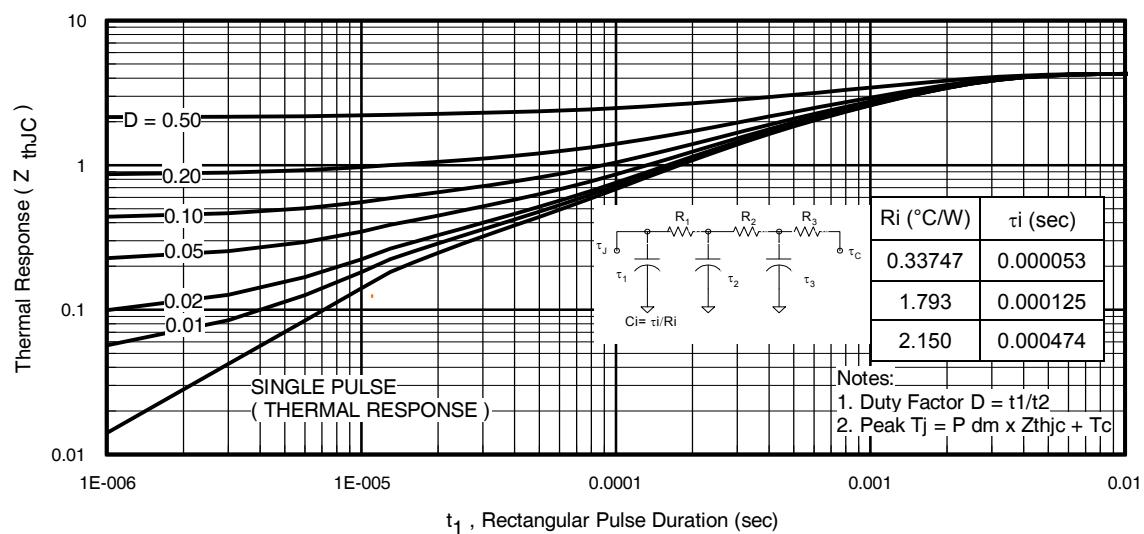
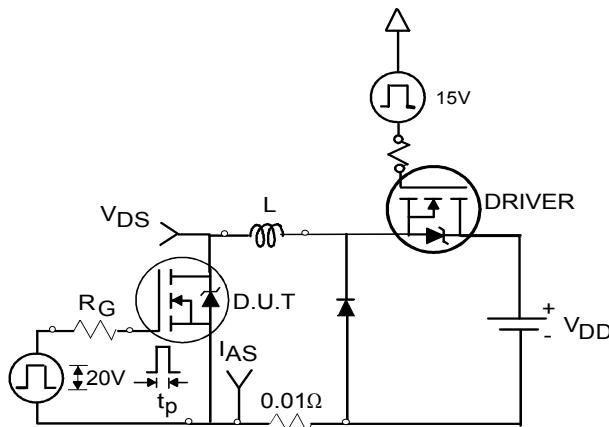

Fig 11. Maximum Effective Transient Thermal Impedance, Junction-to-Case
Fig 12a. Unclamped Inductive Test Circuit
- ① Repetitive rating; pulse width limited by max. junction temperature. (See fig. 11)
- ② Limited by $T_{J\max}$, starting $T_J = 25^\circ\text{C}$, $L = 1.29\text{mH}$, $R_G = 25\Omega$, $I_{AS} = 5.2\text{A}$, $V_{GS} = 10\text{V}$. Part not recommended for use above this value.
- ③ Pulse width $\leq 1.0\text{ms}$; duty cycle $\leq 2\%$.
- ④ $C_{oss\ eff.}$ is a fixed capacitance that gives the same charging time as C_{oss} while V_{DS} is rising from 0 to 80% V_{DSS}
- ⑤ Limited by $T_{J\max}$, see Fig.12a, 12b, 15, 16 for typical repetitive avalanche performance.
- ⑥ This value determined from sample failure population. 100% tested to this value in production.
- ⑦ When mounted on 1" square PCB (FR-4 or G-10 Material). For recommended footprint and soldering techniques refer to application note #AN-994
3. Equation below based on circuit and waveforms shown in Figures 12a, 12b.